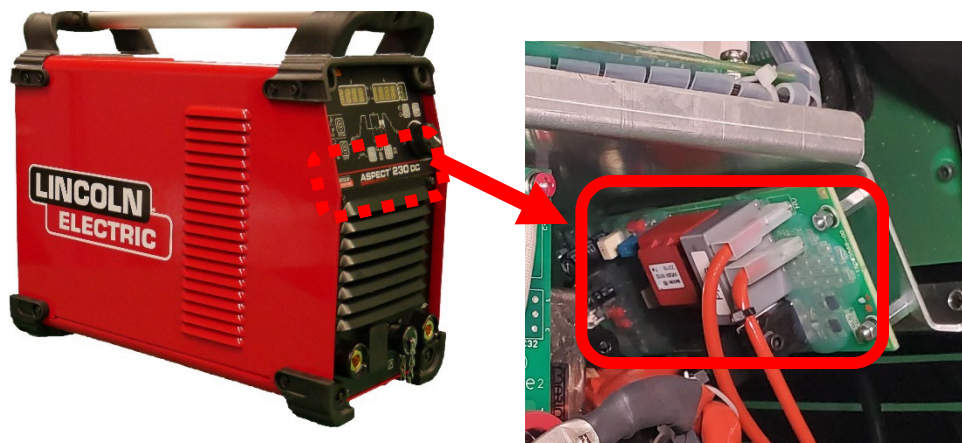

Figure F.1
1. For location of the High Frequency Board refer to Figure F.1.